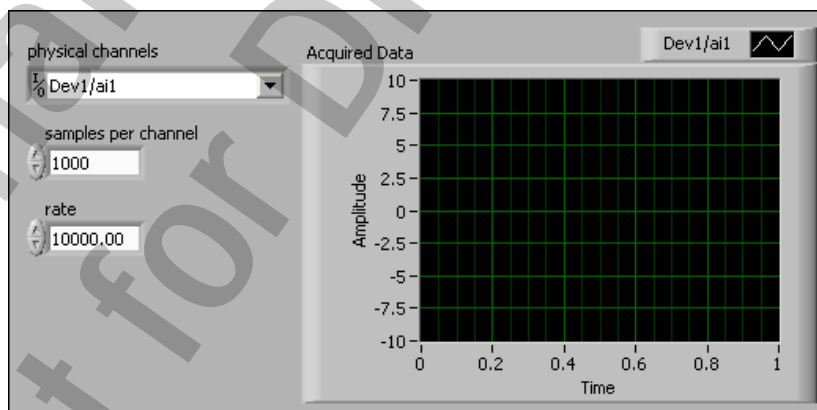

Figure 3-8. Finite Buffered Acquisition VI Front Panel
4. Arrange the items on the front panel similar to Figure 3-8. Do not alter the x- and y-axis scales.